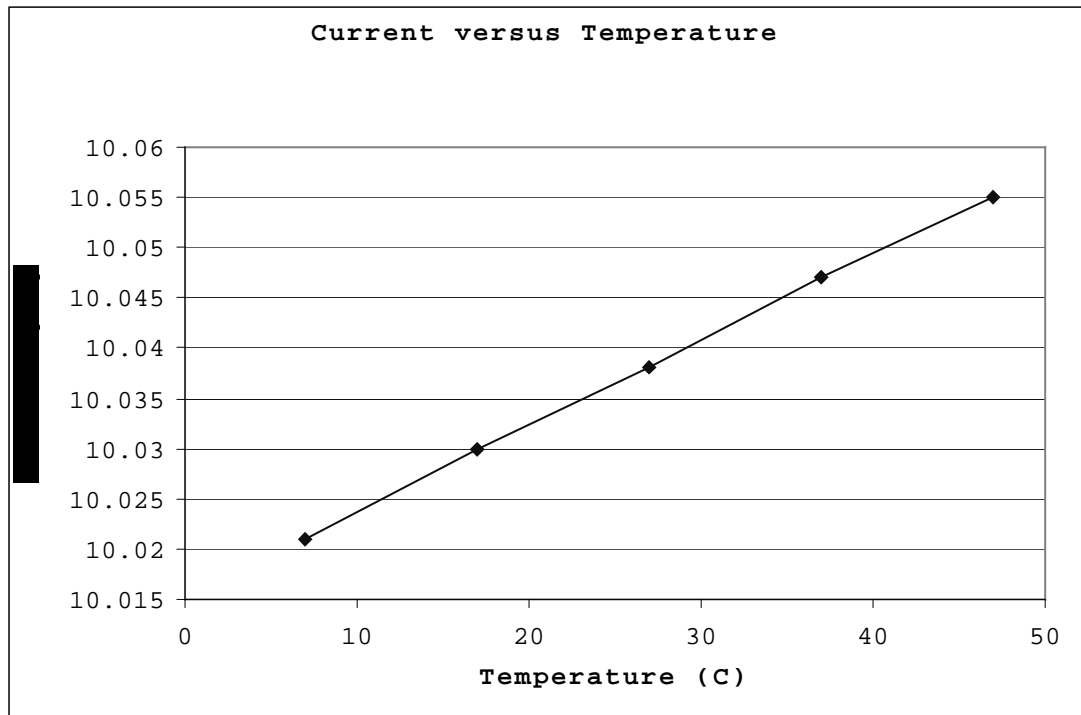

Figure 2: Constant Current Temperature Dependence
- Figure 2: Constant Current Temperature Dependence
The time-to-voltage converter requires a constant current to charge a capacitor, thereby, producing a voltage that varies linearly with time but independent of temperature or supply voltage. It is important that the charging current display little, if any, temperature dependence. The bandgap voltage, described in section 2.1, is applied across a temperature independent resistor. The temperature independence of the resistance is accomplished through a series combination of a resistance with a positive temperature coefficient (ny polysilicon) and a resistance with a negative temperature coefficient (hy polysilicon). See Figure 2.